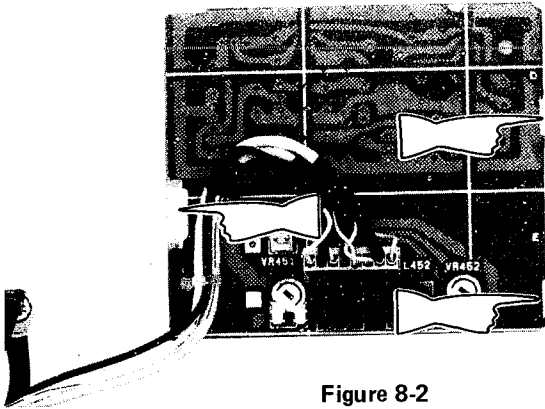

Figure 8-2
2. Remove three tabs at the bias current P.W.B. See Fig. 8-2.